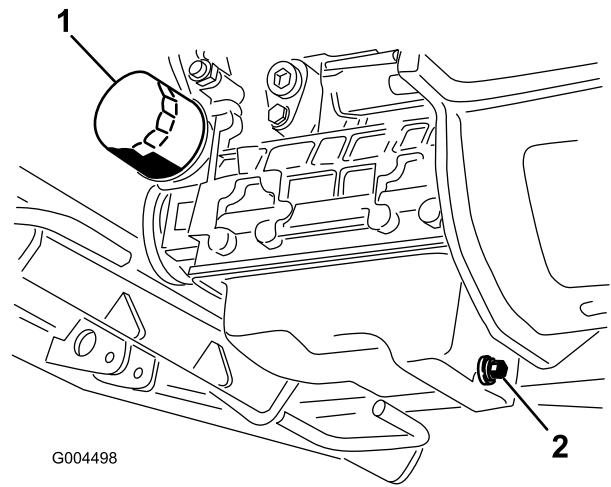

Figure 44
6. Remove and replace the oil filter (Figure 44).
3. Set a drain pan under the oil pan and in line with the drain plug (Figure 44).